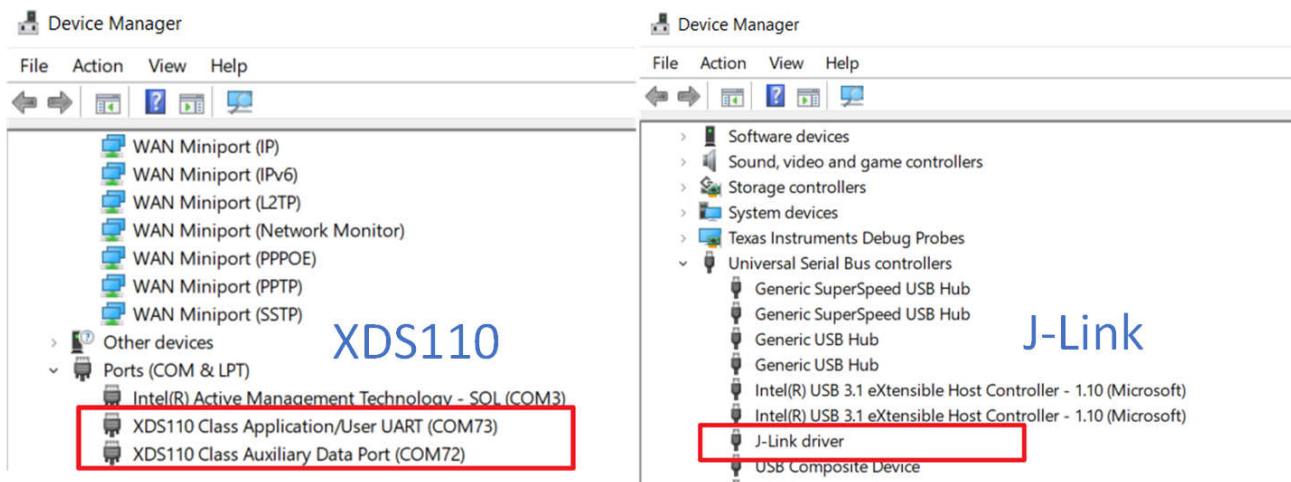

Figure 6-6. Device Manager View
2. Plug in the debugger and check whether the debugger is found by the computer. Check for computer limitations if the debugger does not show like Figure 6-6.